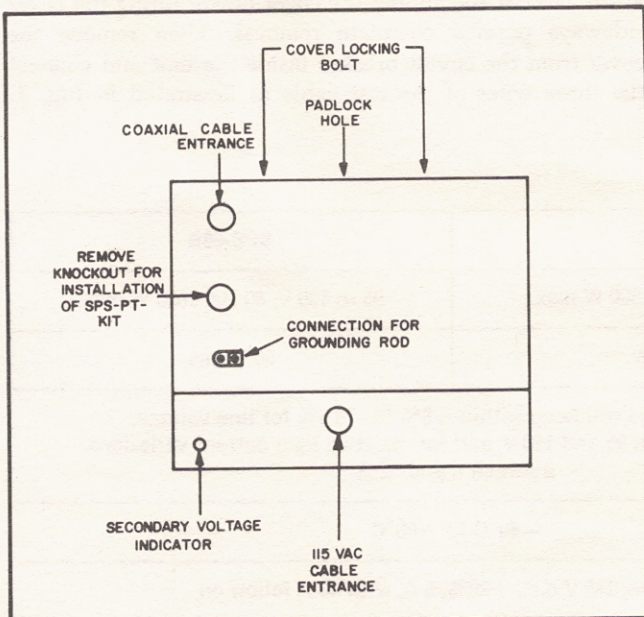

Fig. 2—SPS-*B Housing, Bottom View
1. Remove the output terminal box knockout from the bottom plate of the power supply housing (see Fig. 2).